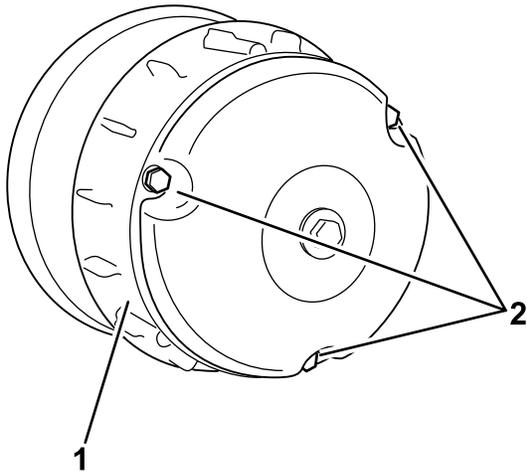

Figure 66
2. Remove the 3 bolts securing the cover to the clutch, and remove the cover (Figure 66).
4. Install the clutch cover and secure it with the 3 bolts (Figure 66) that you removed in 2.